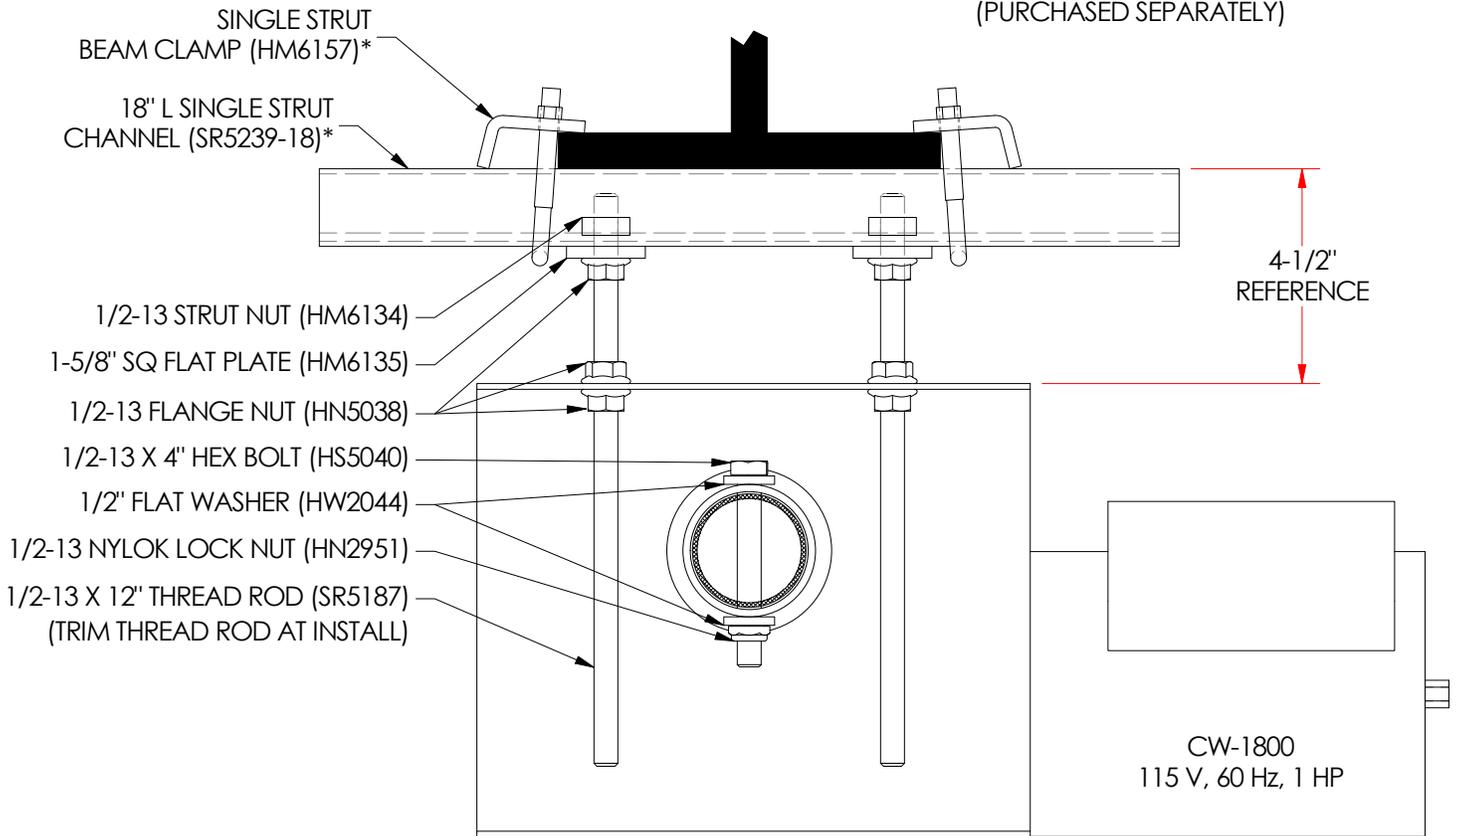

Figure 8: Rendering of Motor Assembly Detail (Section A-A)
2. Secure with hex bolts (HS5040), washers (HW2044), and nylon lock nuts (HN2951), refer to Figure 8.